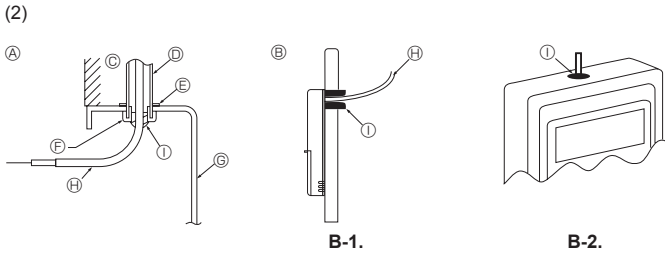

Fig. 5-6
- (2) Seal the service entrance for the remote controller cord with putty to prevent possible invasion of dew drops, water, cockroaches or worms. (Fig. 5-6)